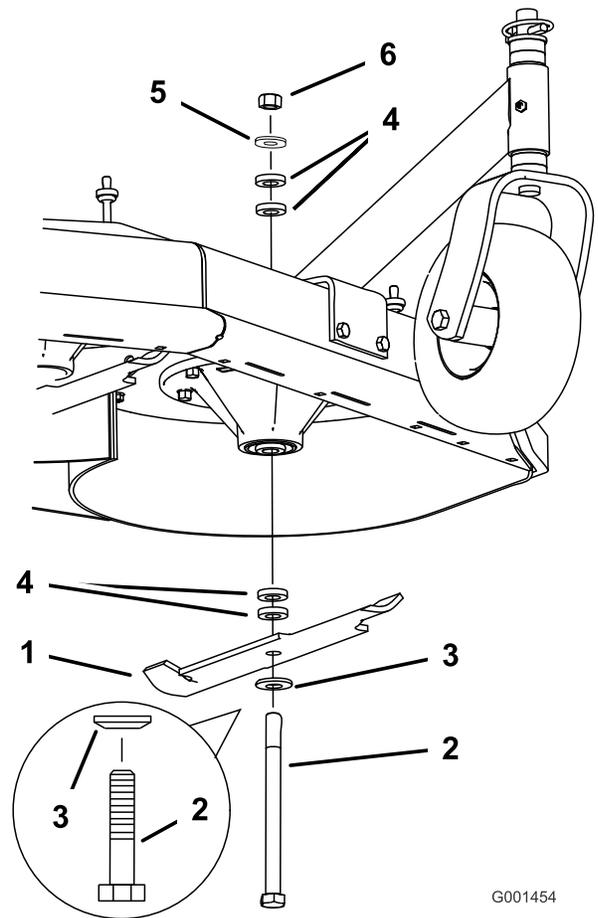

Figure 55
2. Remove the nut, blade bolt, curved washer, blade, spacers, and thin washer from the spindle (Figure 55).
1. Place the blade onto the bolt and over the curved washer. Select the proper number of spacer(s) for the height-of- cut, and slide the bolt into the spindle (Figure 55).